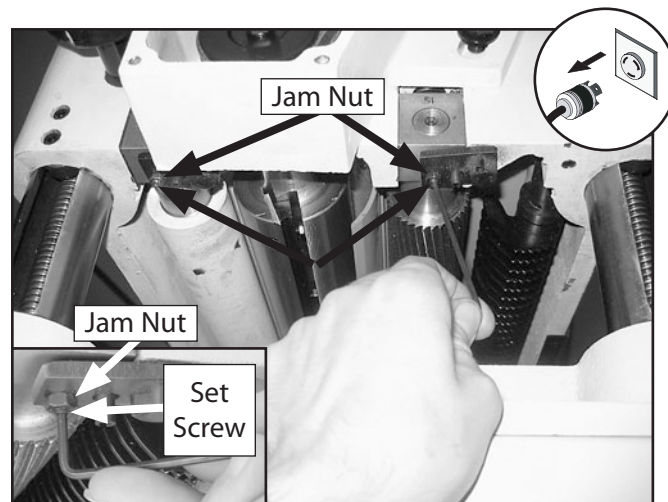

Figure 39. Infeed and outfeed roller height adjustment controls.
8. Loosen the roller adjustment jam nuts (**Figure 39**) and turn the roller height set screws to adjust the height of the infeed roller on the same side as the Rotacator to the specification given at the beginning of this procedure, using the zero setting of the Rotacator as a reference point.
11. Using the same zeroed reference on the Rotacator, adjust the height of the chip breaker and outfeed table roller to their given specifications. The adjustment controls for each are shown in **Figures 39 & 40**.
8. Loosen the infeed roller adjustment jam nuts (**Figure 39**) and turn the adjustment set screws on each end to raise the feed roller above the wood block (if necessary), then bring it back down so it just touches the wood block on both sides.